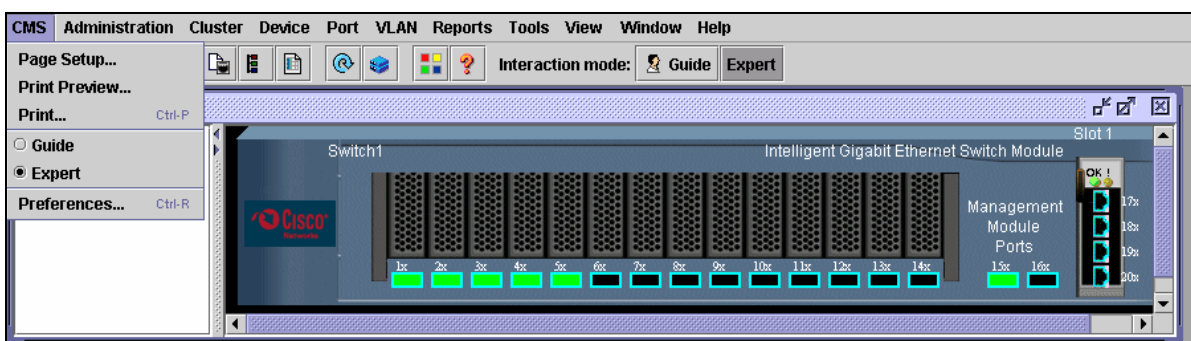

Figure 5-4 CMS menu
- Administration (Figure 5-4 on page 30)